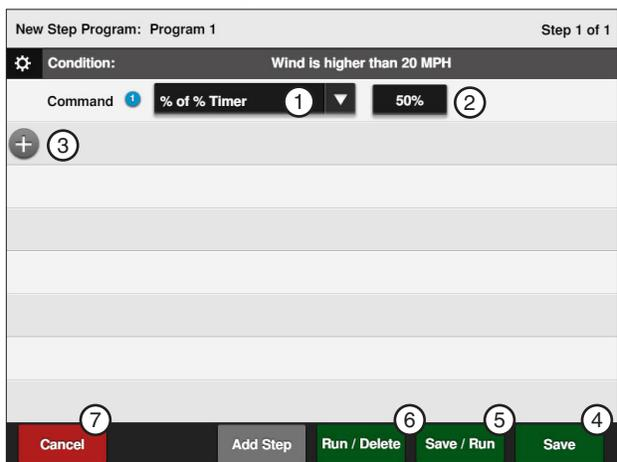

Figure 116-2 1. % of % Timer Command 2. Percent 3. Add Command 4. Save 5. Save / Run 6. Run / Delete 7. Cancel
5. Finish the program by selecting one of the following. Refer to Figure 116-2.